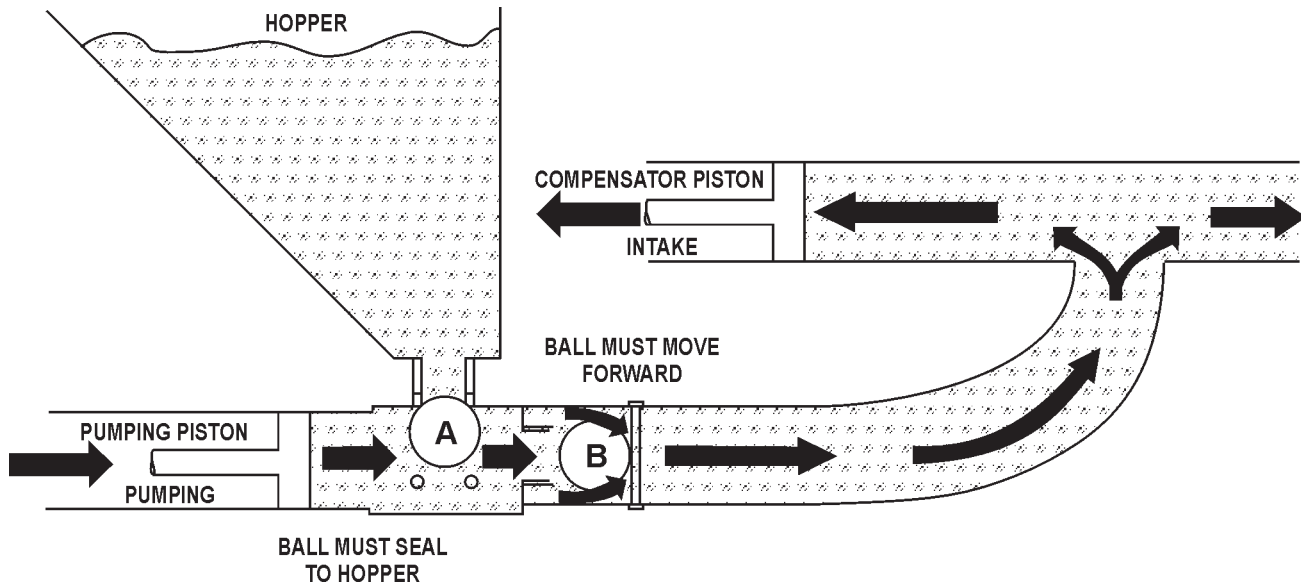

Figure 11. Pumping Pistons
The pumping piston (Figure 11) is forcing the material past ball (B) and out to the nozzle, also seating ball A so that the material will not flow back to the hopper. This action also fills the compensating piston for the next stroke.